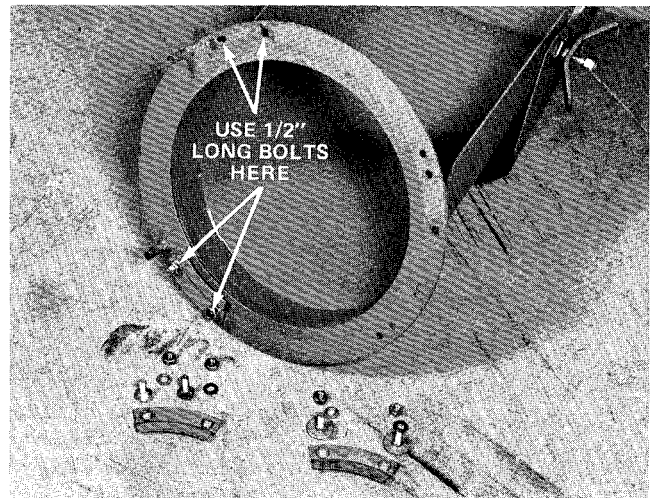

Figure 5
5. Remove fasteners and clamps from chute for mounting (Fig. 5).
Note: Use 1/2 inch long bolts to permit full chute travel as indicated in Fig. 5.